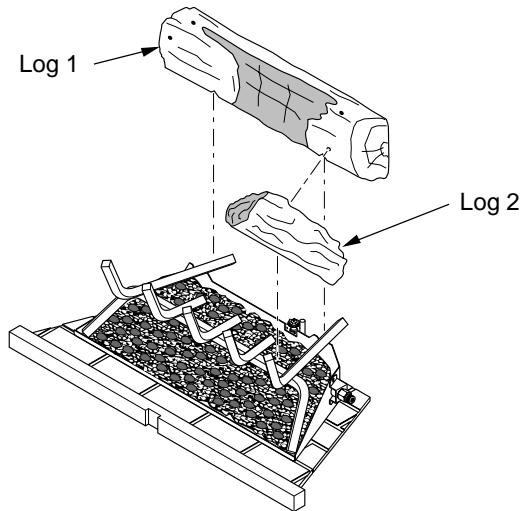

Figure 24 - Installing Logs 1 and 2
1. Place large back log (log 1) onto grate making sure notches rest over grate (see Figure 24).
2. Place log 2 onto front right side of grate. Gently insert peg on back of log 2 into hole on right front of log 1 (see Figure 24).